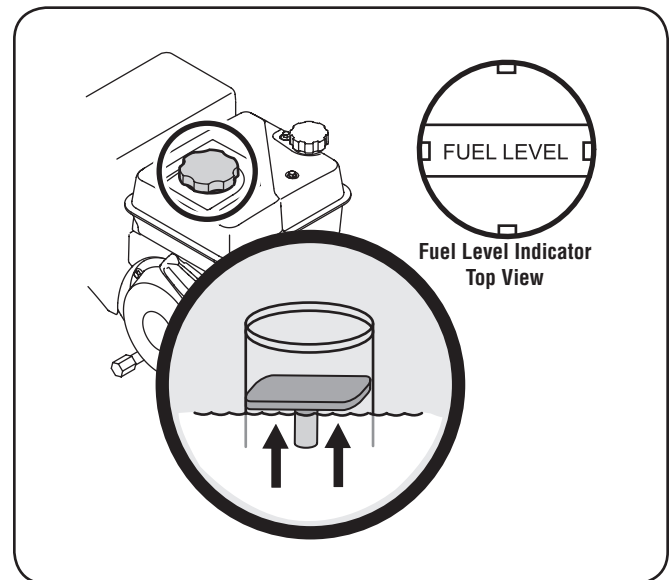

Figure 3-8
2. A fuel level indicator is located in the fuel tank. Fill the tank until the fuel reaches the fuel level indicator, Fig. 3-8. Be careful not to overfill.